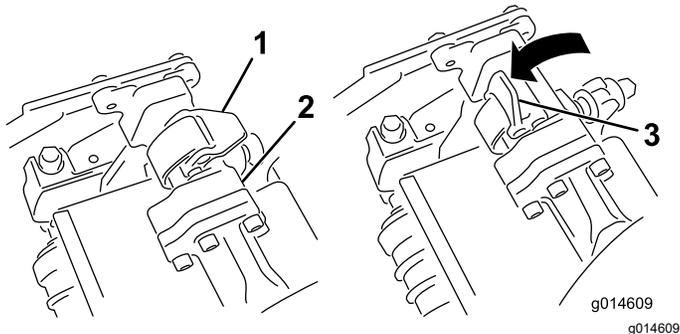
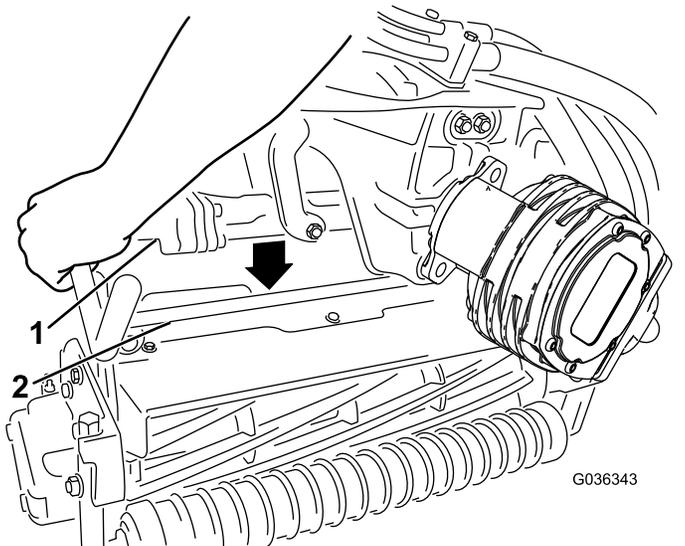

Figure 62
Figure 63
4. With the latches on the suspension-arm bar pointing up (i.e., open) (Figure 62), push the suspension arm down so that the bar fits over the bar across the top of the cutting unit (Figure 63).
5. Close the latches down and around the cutting-unit bar and lock them in place (Figure 62).
5. Open the latches on the suspension-arm bar of the cutting unit you are removing (Figure 62).